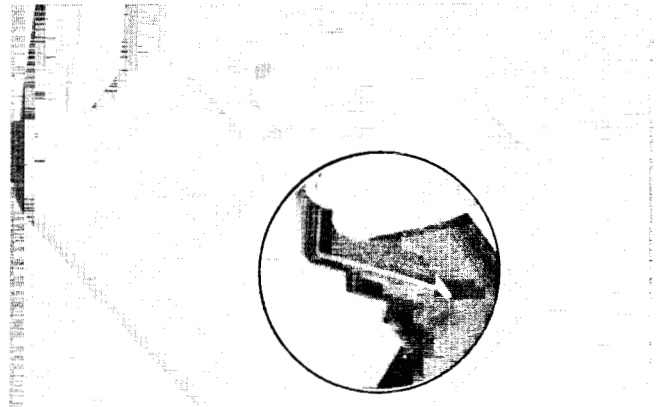

Figure 5.41c
- D. Pull up gently on upper handle and remove the control panel (fig. 5.41c).